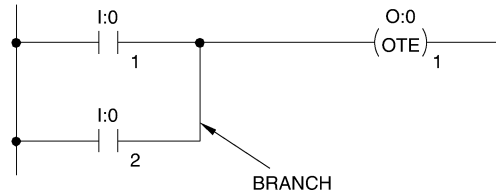

Figure 2-5. Combination of series and parallel logics.
The ladder rung in Figure 2-5 is an example of parallel (OR) logic. Parallel logic means that one or another path of true instructions must exist on the rung in order for the output instruction to be true. In Figure 2-5, either input instructions XIC I:0/1 **OR** XIC I:0/2 must be true in order for instruction OTE O:0/1 to be true. Parallel logic is programmed by branching instructions in a ladder rung.